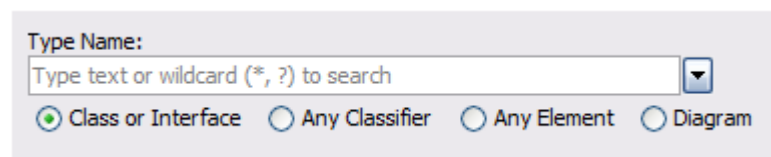

Figure 9 -- Quick Search Dialog
1. Press **Ctrl + Alt + F** to open the **Quick Search** dialog (Figure 9).